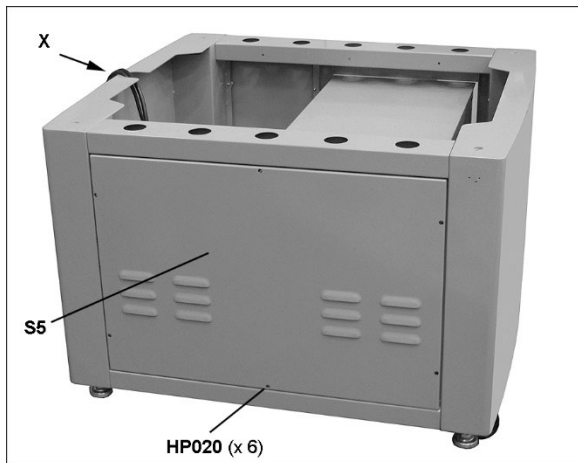

Figure 7-15
13. Install remaining side panel (S5, Figure 7-15). The stand is now complete.
14. Rest the server cables through slot on rear panel (X, Figure 7-15). Feed the electrical cable underneath stand so that plug can be accessed after installing router table.